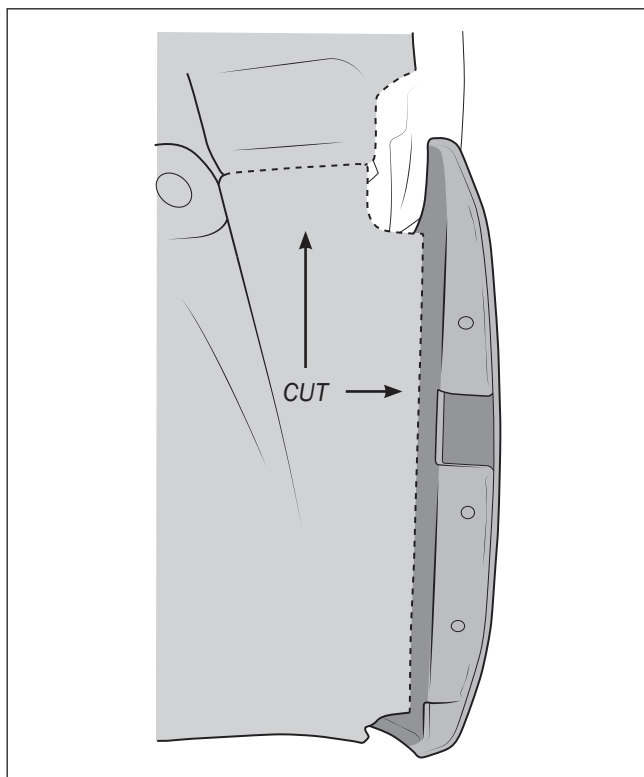

Figure 44
3. Trim the front edge of both inner fender liners to provide approximately 1/2" gap between the liner and the bumper corner (fig. 44).